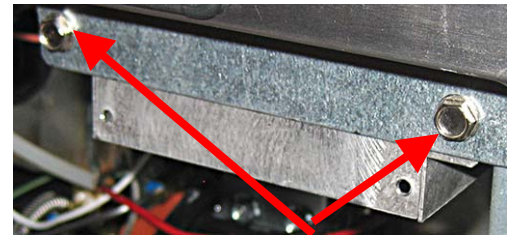

Figure 7
7. Remove the two screws securing the ignition module assembly (see Figure 7).